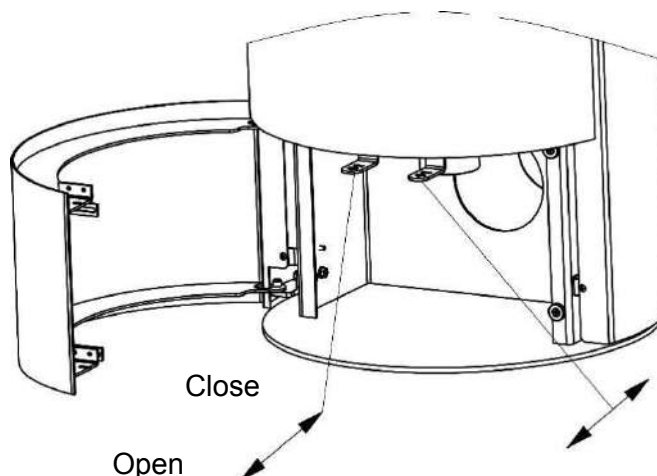

Figure 8
- 3) Once the wood is fully ignited, after about 2 minutes, adjust the air as required as shown in Figure 8 :